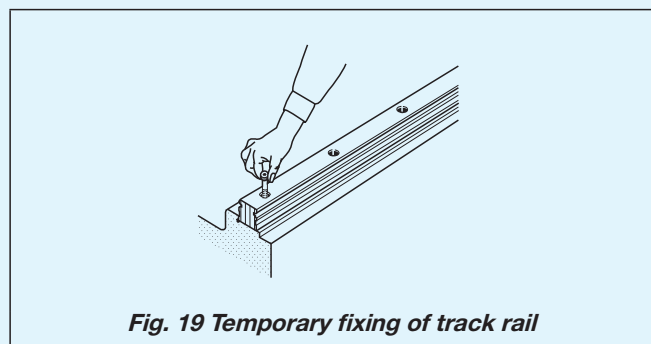

Fig. 19 Temporary fixing of track rail
- Align and temporarily fix them with reference mounting surface of each Linear Way track rail. (See Fig. 19)